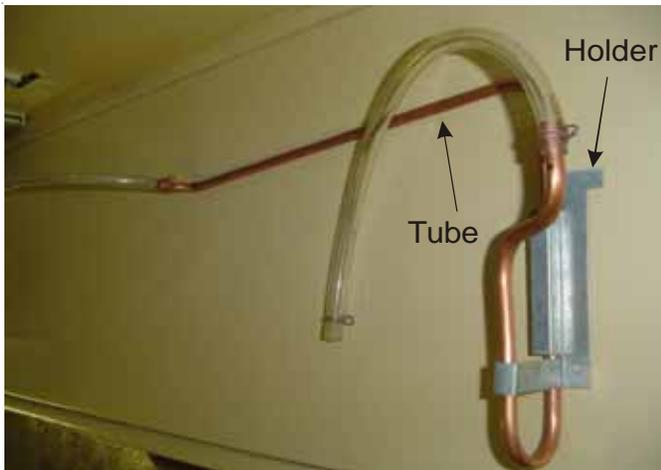
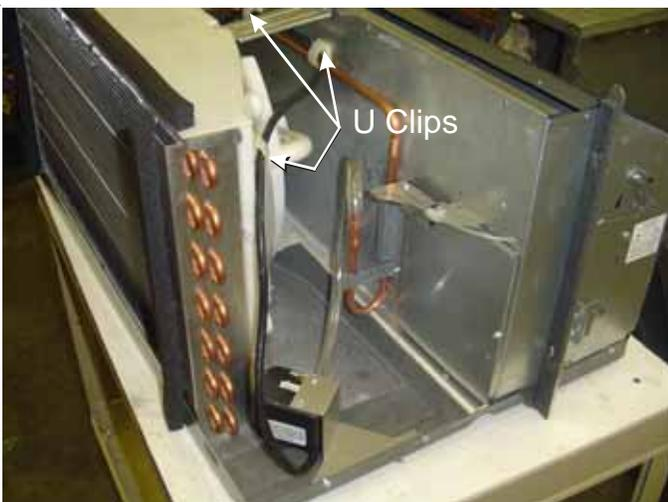

Figure 4
Figure 5
11. Remove the protective adhesive backing from the plastic U clips and mount the U clips to the plastic condenser shroud and partition panel in approximately the position shown (Figure 5).
12. Using the overflow tube holder and the overflow tube, hold the tube with the metal holder and screw the holder to the partition panel with the provided 1/2 inch #8 screw (Figures 4). Make sure the overflow tube passes through the two (2) U clips attached to the partition panel (Figure 5).
13. Open the two (2) metal tube clamps (provided). Place the overflow tube and the condensate pump cord into the clamp. Screw the tube clamps into the dimples on the partition panel. Close the clamps.